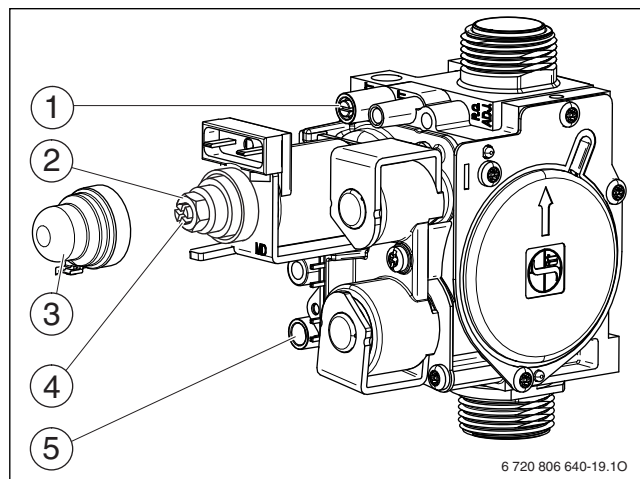

Fig. 23 Gas train
- ▶ Loosen the sealing screw at the test nipple for the nozzle pressure (→ Fig. 23, [1]) and connect the U-tube pressure gauge.
- ▶ Remove the cover (→ Fig. 23, [3]).
- ▶ For "max." specified nozzle pressure (mbar). Use the setting screw to set the nozzle pressure for the max. gas volume (→ Fig. 23, [2]). Turn clockwise = more gas; turn anti-clockwise = less gas.
- ▶ For "min." specified nozzle pressure (mbar). Use the setting screw to set the nozzle pressure for the min. gas volume (→ Fig. 23, [2]).
- ▶ Loosen the sealing screw at the test nipple for the gas supply pressure (→ Fig. 23, [5]) and connect the pressure gauge.